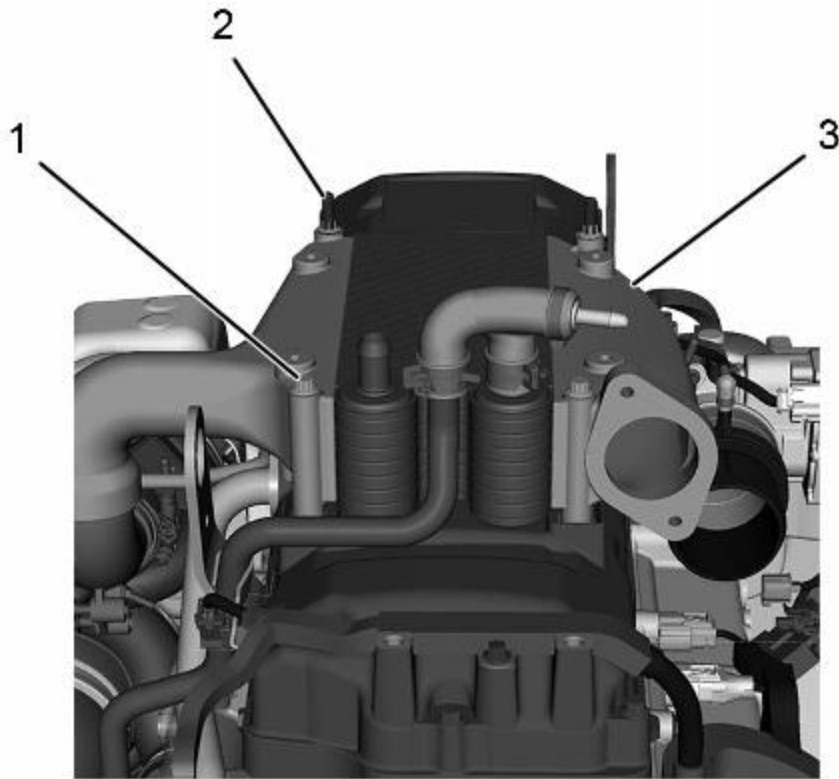

Figure 19. Interstage Cooler (ISC).
- 1. M8 x 110 bolt (2)**
- 2. M8 x 110 stud bolt (2)**
18. Install ISC (Figure 19, Item 3) onto turbocharger inlet elbow and valve cover with two bolts (Figure 19, Item 1) and two stud bolts (Figure 19, Item 2).